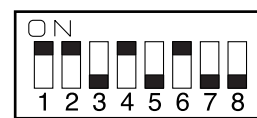

Figure 5-152
- 2) Set the DIP switch (SW1) on the ADF controller PCB as shown in Figure 5-152.